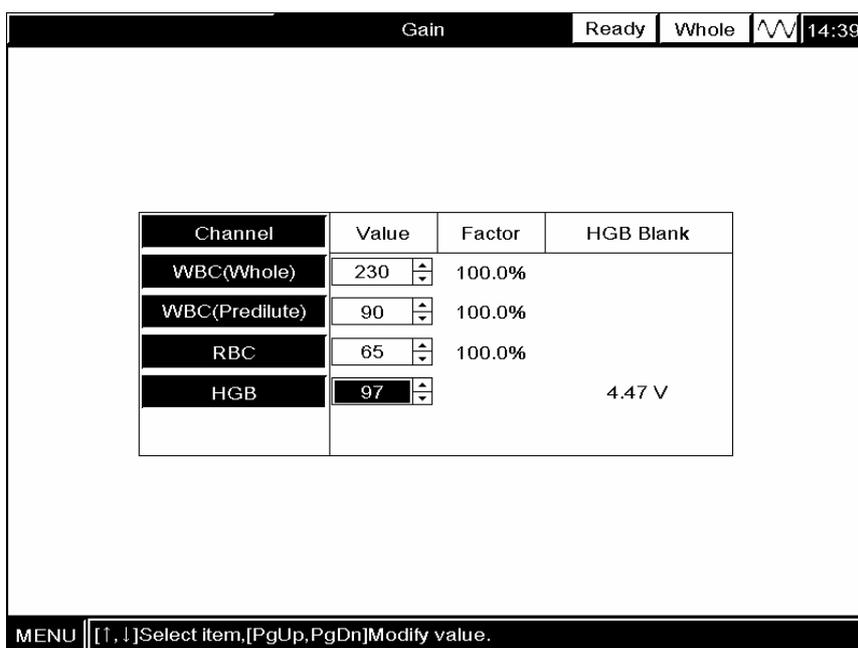

Figure 5-33 Setting HGB gain
2. Enter the “**Gain**” screen and **ENTER** the desired gain into the “**HGB**” box so that the HGB voltage falls between 3.4 - 4.8 V, as Figure 5-33 shows.